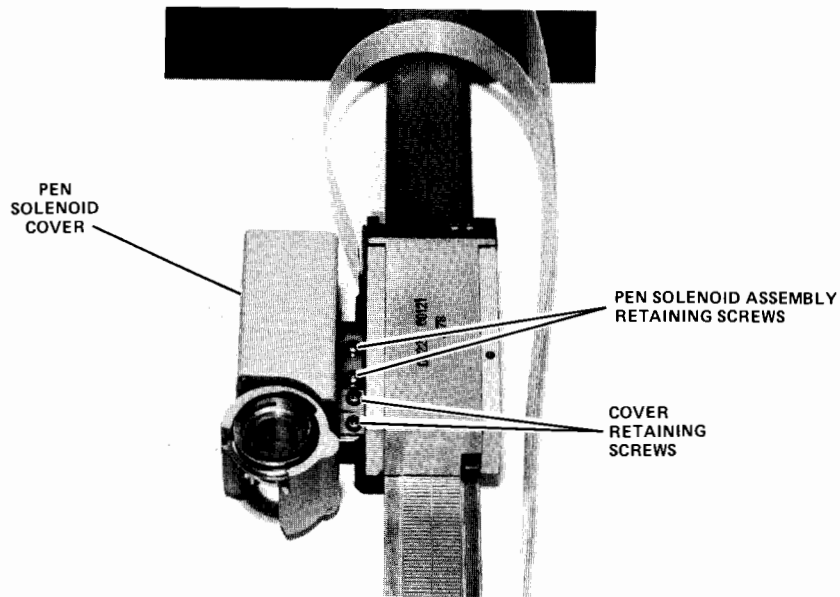

Figure 6-23. Pen Solenoid Cover and Solenoid Assembly Removal
- c. Remove the two 2-56 X 1/4 pen solenoid cover retaining screws. (See Figure 6-23.)
- c. Remove pen solenoid cover. (See Figure 6-23.)
- d. Remove the two 2-56 X 3/8 pen solenoid assembly retaining screws. (See Figure 6-23.)
- e. Remove pen solenoid assembly. (See Figure 6-23.)